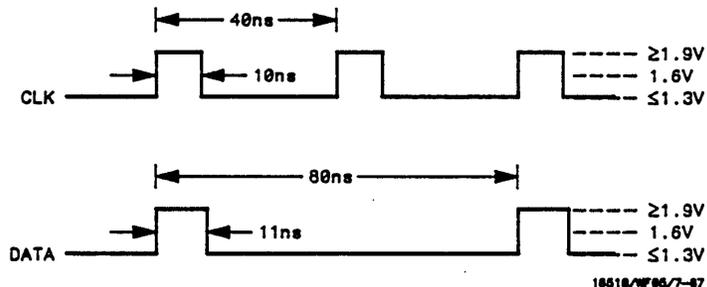

Figure 3-13. Waveforms for Clock, Qualifier, and Data Inputs Test 3
- Adjust the pulse generator for outputs in figure 3-13. Use double pulse mode of the pulse generator for the clock waveform.